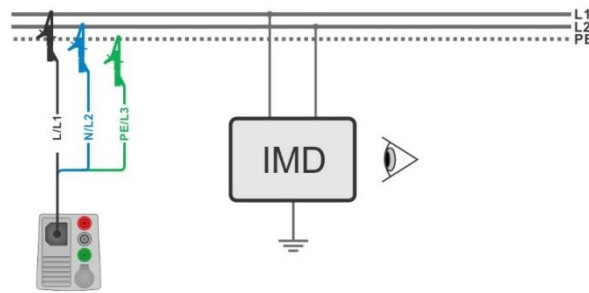

Figure 7.138: AUTO IT measurement
- ▶ Connect 3-wire test lead to the object under test, see *Figure 7.138*.